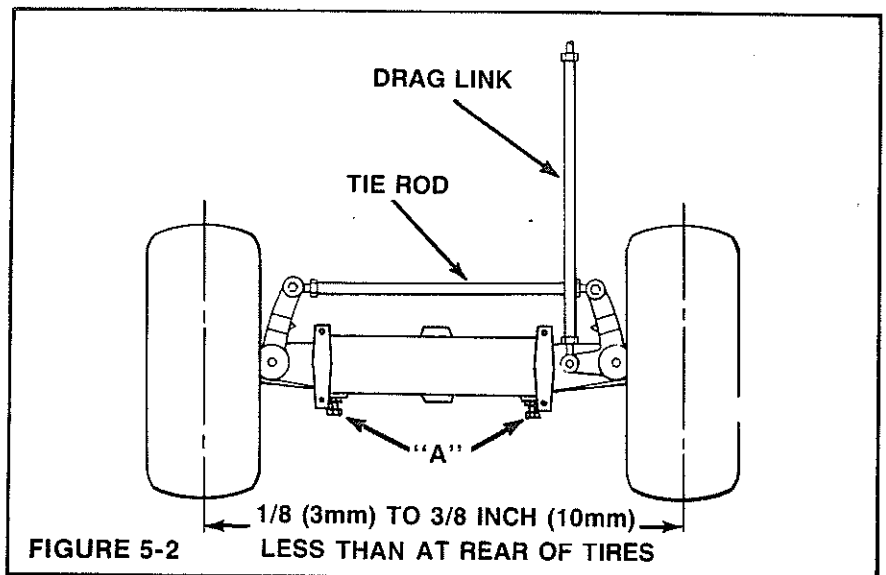

FIGURE 5-2
justing screws (A), Figure 5-2, pressure can be applied to the front axle. Raise front of tractor and adjust as required. Front axle should pivot with a small amount of drag.